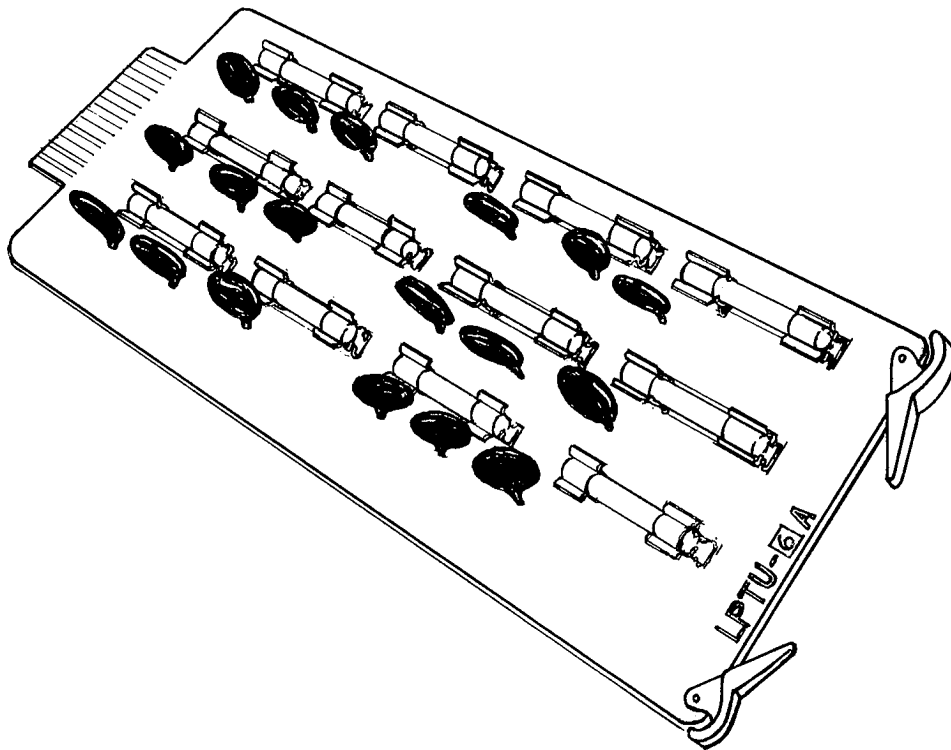

Figure 7-6 LPTU-6A PCB, EK-616
- (e) A fifth circuit board, the **LPTU-6A** ( Figure 7-6 ), is plugged into the KSU for CO line fuse and surge protection.